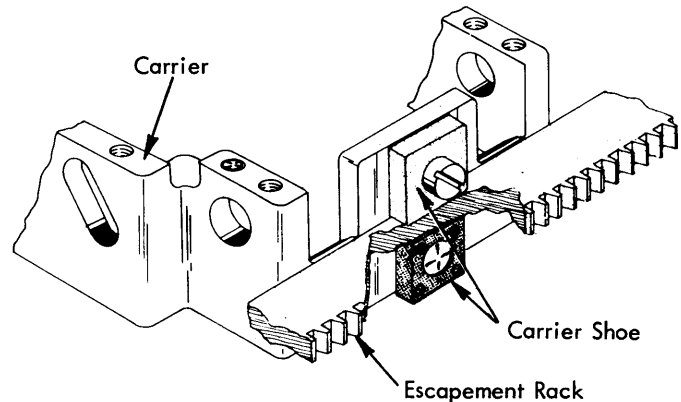

FIGURE 73. Carrier Shoe - Old Style
- a. Carrier Shoe (Old Style) - Adjust the upper carrier shoe eccentric mounting stud to provide .001" to .004" vertical motion of the carrier at the rear (Fig. 73). Check at several points along the writing line.